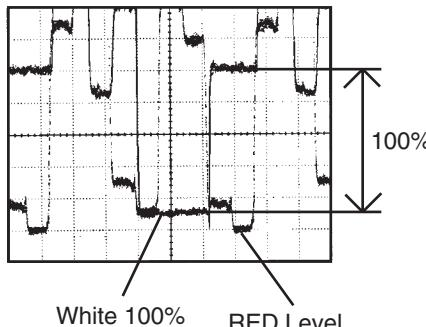

Fig. 2-3
9. Press the VOL. UP/DOWN button on the remote control until the red color level is adjusted to $115 \pm 10\%$ of the white level. **(Refer to Fig. 2-3)**